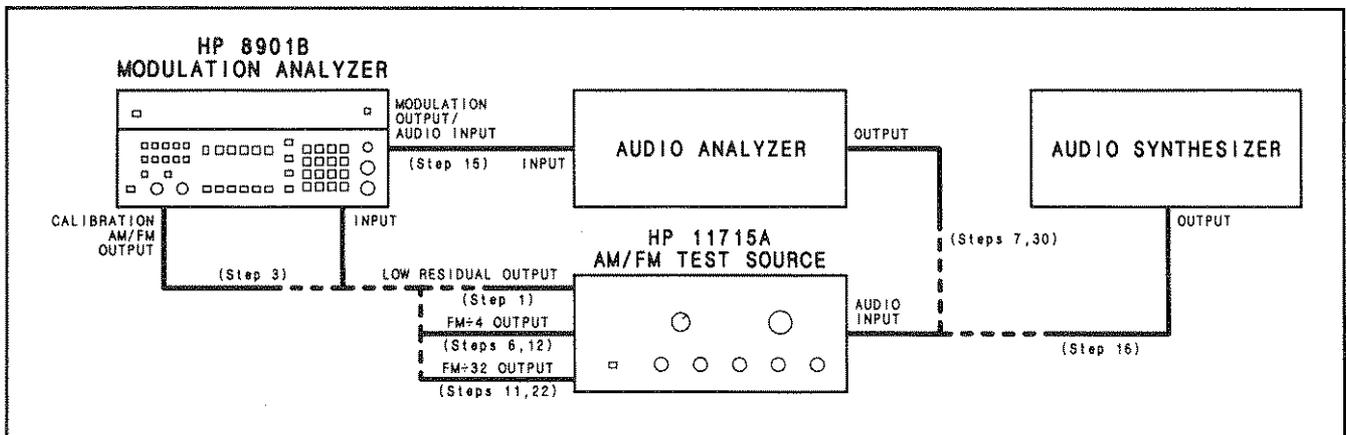

Figure 4-2. FM Performance Test Setup
1. On the AM/FM test source, set the test mode to residual FM. Connect its low-residual (560 MHz) output to the Modulation Analyzer's INPUT. (See Figure 4-2.)
3. Connect the Modulation Analyzer's CALIBRATE AM/FM OUTPUT to the INPUT. (See Figure 4-2.)
- On the AM/FM test source, set the test mode to FM. Connect its FM÷4 output to the Modulation Analyzer's INPUT. (See Figure 4-2.)
- Set the audio analyzer's oscillator to 10 kHz at 1V. Connect its output to the audio input of the AM/FM test source. (See Figure 4-2.)
- Connect the FM÷32 output of the AM/FM test source to the Modulation Analyzer's INPUT without disturbing the AM/FM test source's controls. (See Figure 4-2.) Multiply the displayed ratio on the Modulation Analyzer by the calibration factor of step 4. (For example, if the display reads 12.52% REL and the calibration factor of step 4 is 100.4%, the result is $12.52 \times 100.4 = 12.57\%$ REL.) The result should be between 12.35 and 12.65% REL.
- Connect the FM÷4 output of the AM/FM test source to the Modulation Analyzer's INPUT. (See Figure 4-2.)
- Connect the audio analyzer's input to the Modulation Analyzer's **MODULATION OUTPUT/AUDIO INPUT**. (See Figure 4-2.) Set the audio analyzer to measure the distortion on the 100 kHz signal at the **MODULATION OUTPUT/AUDIO INPUT** (all audio analyzer filters should be off). The distortion should be 0.1% or less (−60 dB or less).
- Set the audio synthesizer to 10 kHz at +5 dBm. Connect its output to the audio input of the AM/FM test source. (See Figure 4-2.) Fine adjust the level for a Modulation Analyzer display of 100 kHz times the calibration factor of step 5. (For example, if the calibration factor of step 5 is 100.4%, set the level for a display of 100.4 kHz.)
- Connect the FM÷32 output of the AM/FM test source to the Modulation Analyzer's INPUT. (See Figure 4-2.)
30. Set the audio analyzer's oscillator to 10 kHz at 4V. Connect its output to the audio input of the AM/FM test source. (See Figure 4-2.) Fine adjust the oscillator level for a Modulation Analyzer display of 10 kHz peak deviation.